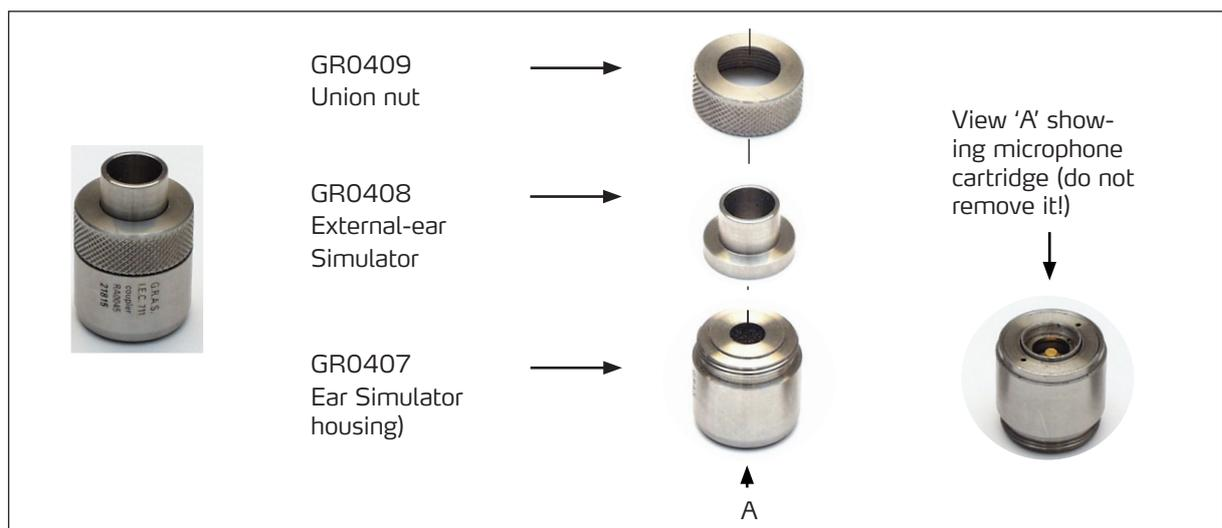

Fig. 1. RA0045 Ear Simulator as delivered (left) and its user serviceable parts (right)
The RA0045 is delivered as shown in Fig. 1, to the left. An exploded view of its user-serviceable components is shown in Fig. 1, to the right.
- 1) Snap the spring-loaded clamp (see Fig. 1) to its upright position, or remove it.